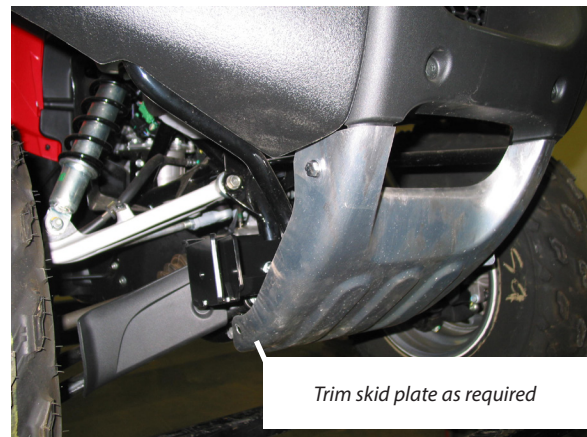

Figure 7
7. Once mounts are secured in place, replace front aluminum skid plate on vehicle, as shown in Figure 7. Some trimming may be required in the area of the plow mount to allow skid plate to bolt up to original mounting location.
Once mount is secured in place, replace the front aluminum skid plate on vehicle, shown in Figure 7 of previous section. Some trimming may be required in the area of the plow mount allowing skid plate to bolt up to original mounting location. See Figure 8 of previous section for completed installation.